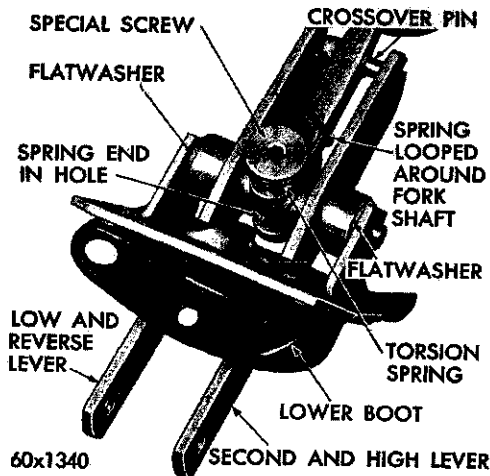

Fig. 13—Lever Torsion Spring (Installed)
(6) Install the shift fork retaining screw and lock-washer (front). Do not tighten at this time.
(7) Engage the loop of the torsion spring with the gearshift fork shaft, and slide the other end into the hole at the bottom of the divider, as shown in Figure 13.
(8) Install the spring retaining screw and lock-washer, tighten both screws securely.
(9) Slide the lower boot up over the shift levers, being sure the screw holes are aligned.
(10) Slide the tool wedge between the second and high lever and the gearshift fork, as described in Paragraph "Gearshift Linkage Adjustments," then install gearshift assembly in the vehicle.
(11) Install the attaching bolts and tighten to 150 inch-pounds torque.
(12) Adjust the linkage as outlined in Paragraph 6. After readjustment has been made, reinstall boot and retainer and secure with screws.